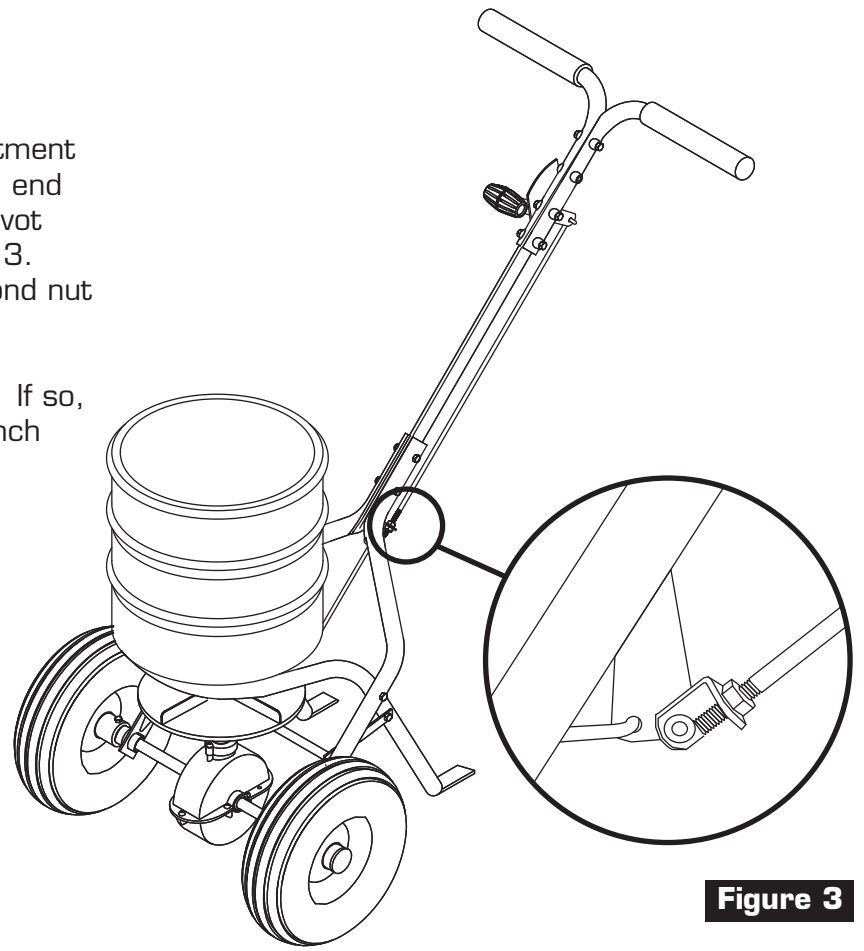

Figure 3
3. Rotate control rod and insert into adjustment handle, Figure 3. Remove one nut from end of control rod. Insert control rod into pivot and bracket assembly as shown, Figure 3. Note orientation of bracket. Install second nut finger tight only.